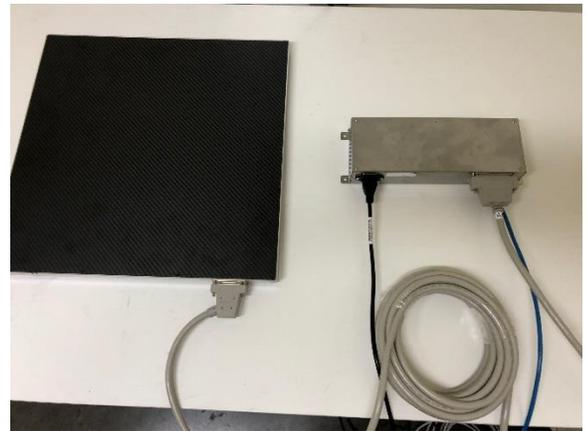

Figure 11: view of the DR power box connection
3.1. DR Panel: (refer to figure 11)